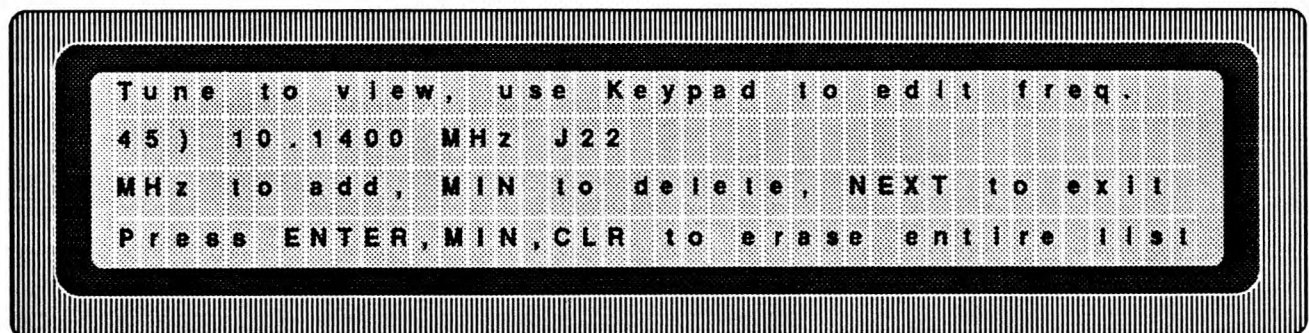

Figure 3-17. Edit Frequency List
b. Press “.” to place the display into the edit mode. Figure 3-17 is displayed.
g. Frequency lists entered by the cartridge can be edited by following the prompts on the display shown in Figure 3-17. If a frequency is changed, however, the comments remain the same, but the ID number of the list is automatically changed to "0000". No ID (other than 0000) can be given to a frequency list entered by the keypad.